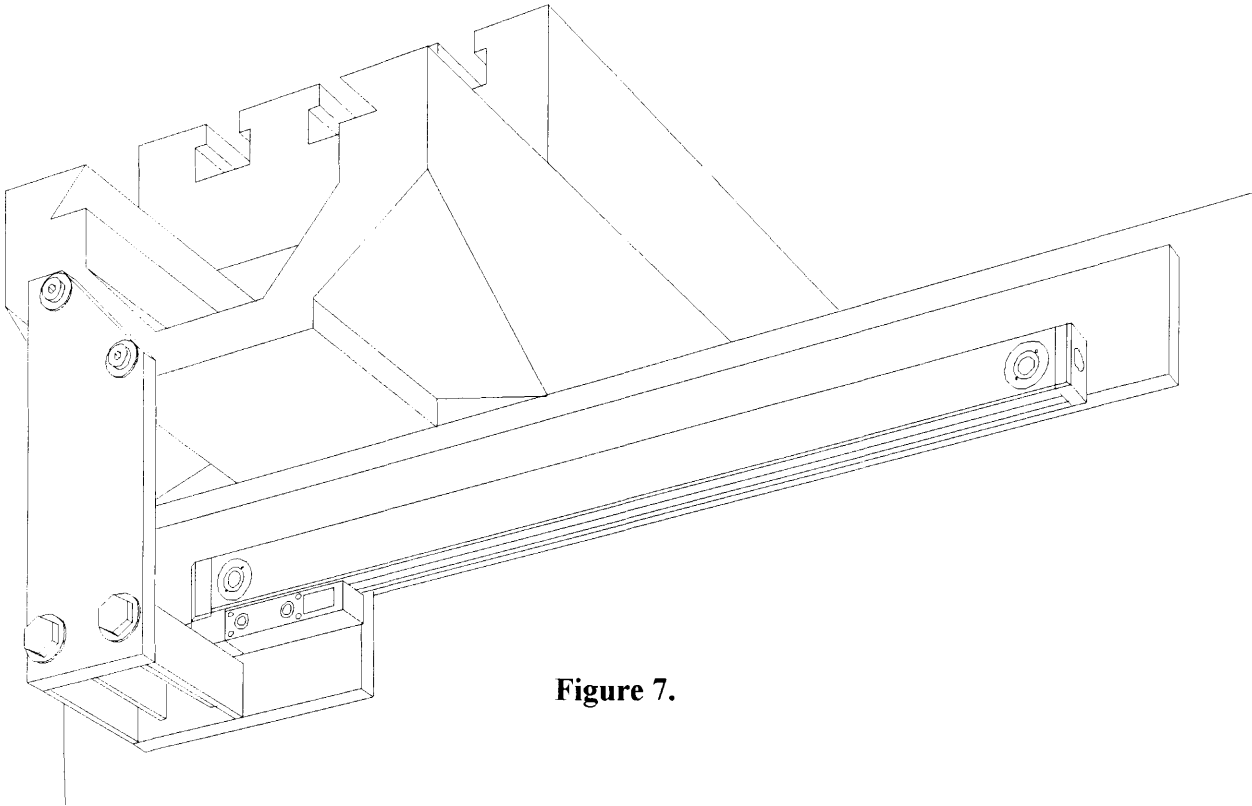

Figure 7.
1. Refer to Figure 7. It is recommended that the miniscale be mounted on the right side of the mill knee (as viewed from the front). Due to mill variations and specific applications it may be necessary to mount the miniscale on the left side. In most cases, the miniscale is best mounted with the encoder box (as it is locked to the alignment bracket) closest to the front of the mill.